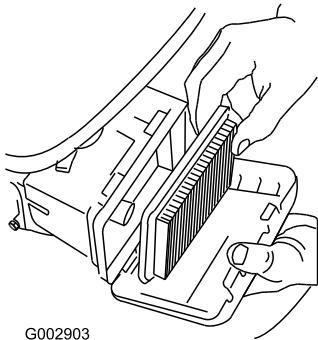

Figure 32
- Remove the paper air filter (Figure 32).